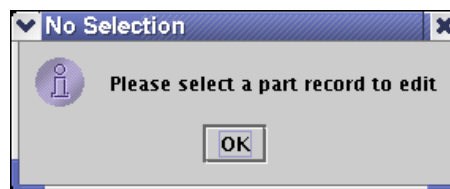

Figure 5-21. No Selection Dialog Box
5.4.1.5 Edit Part. The **Edit Part** button allows the operator to edit the information about a replaced part from the list in the Parts Replaced area. The operator should select a part before pressing the **Edit Part** button. If the operator does not select a part before pressing the **Edit Part** button, the No Selection dialog box (Figure 5-21) appears and notifies the operator of the error. To correct this error, the operator first needs to select **OK** on the dialog box, select a part from the repaired parts list, and reselect the **Edit Part** button. When the Replaced Part is opened, it will look similar to the picture in Figure 5-19, except the text fields will have information in them.